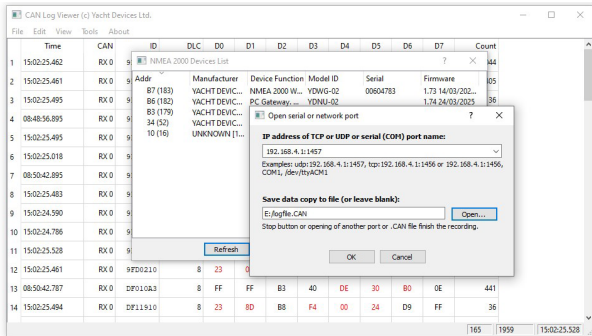

Figure 10. CAN Log Viewer software
- Click «Open...» to select where the log file will be saved (refer to Figure 10).